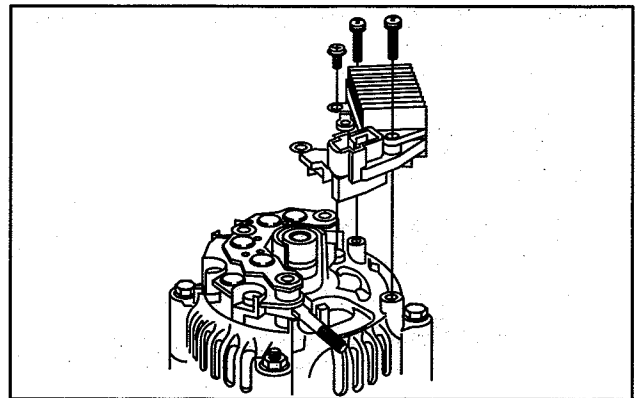

Fig. 39 - Install Regulator
7. Install regulator with three screws shown, Fig. 39.